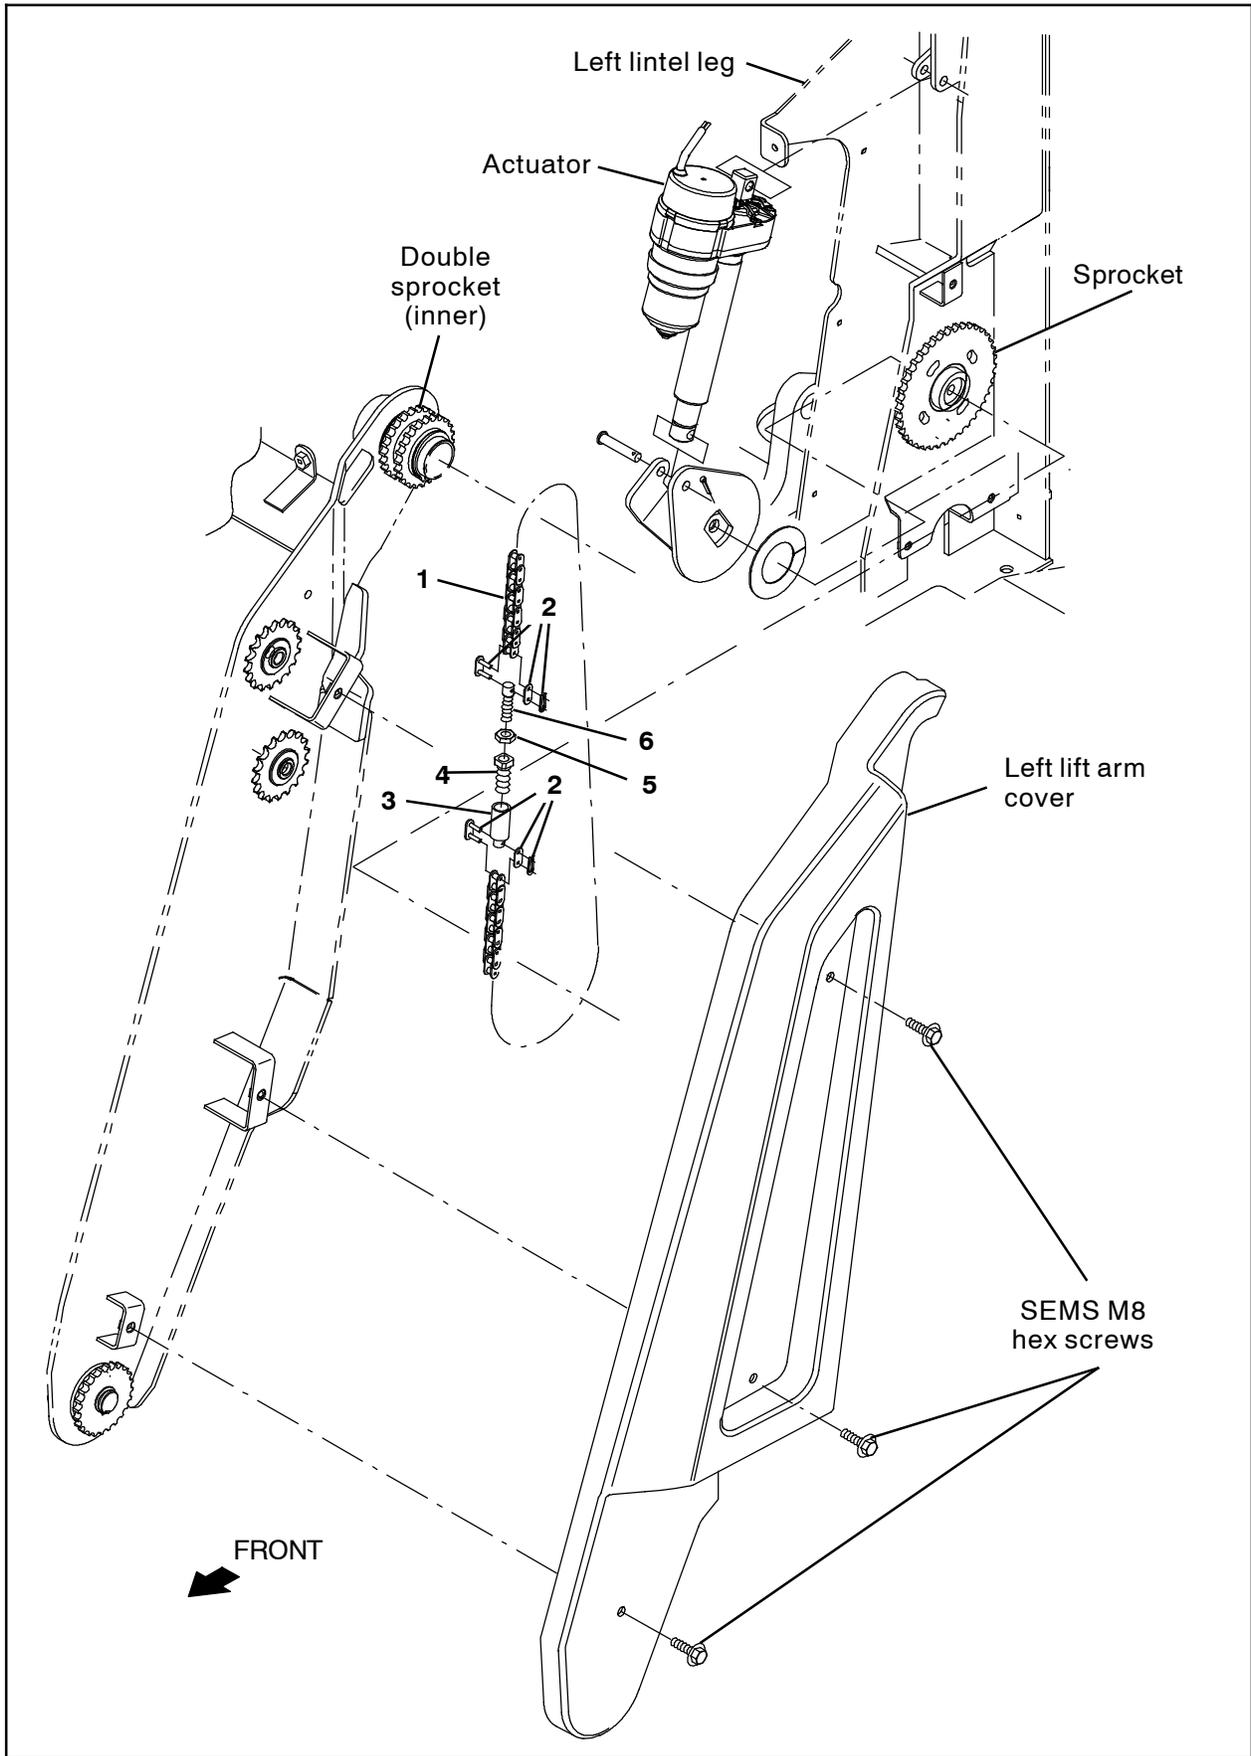

FIG. 6
- Remove the existing chain from the machine. Discard the chain and all chain components. (Fig. 6)
- Use one chain link assembly (2) to install the pivot (6) onto the chain (1). (Fig. 6)
- Thread the M10 jam nut (5) onto the pivot (6). (Fig. 6)
- Use the remaining chain link assembly (2) to install the ear (3) onto the chain (1). (Fig. 6)
- Thread the housing (4) into the ear (3). (Fig. 6)
- Install the chain assembly (1) onto the double sprocket where the removed chain was previously located. (Fig. 6)
- Route the chain assembly around the lower sprocket located on the left lintel leg. (Fig. 6)
- Position the chain assembly (1) tensioner so there is 16 in. (406 mm) between the center of the sprocket and the end of the tensioner with the pivot. (Fig. 6)
- Thread the housing (4) onto the pivot (6). (Fig. 6)
10. Tighten the housing (4) onto the pivot (6) so the chain assembly (1) does not hang down. Do not over tighten the housing. It should be possible to move the chain approximately ½ in. (12.7 mm) perpendicularly with minimal effort on the slack side of the chain.. (Fig. 6)
11. Tighten the M10 jam nut (5) against the housing (4). (Fig. 6)
12. Reconnect two harness connectors to the main sweep circuit board. (Fig. 6)
13. Reinstall the board support plate / side sweep circuit board onto the electrical enclosure. (Fig. 6)
16. Reinstall the electrical enclosure onto the left lintel leg. (Fig. 6)